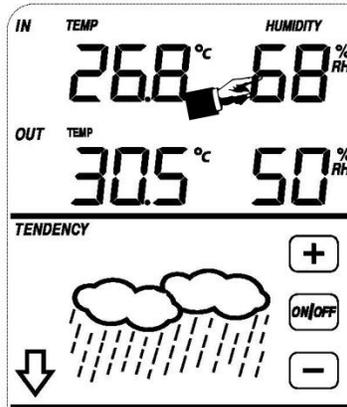

Figure 11
1. Touch the indoor humidity once, as shown in Figure 11. The indoor humidity will begin flashing and the **+** button and **-** button will be flashing (in the tendency section of the display).